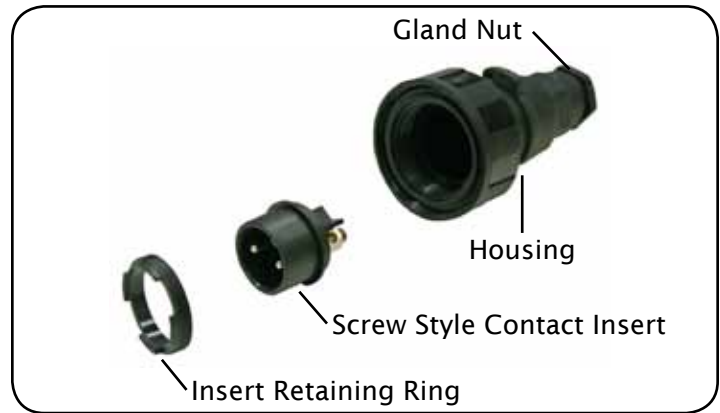

figure 3
1. Disassemble the cable connector. (Fig. 3)